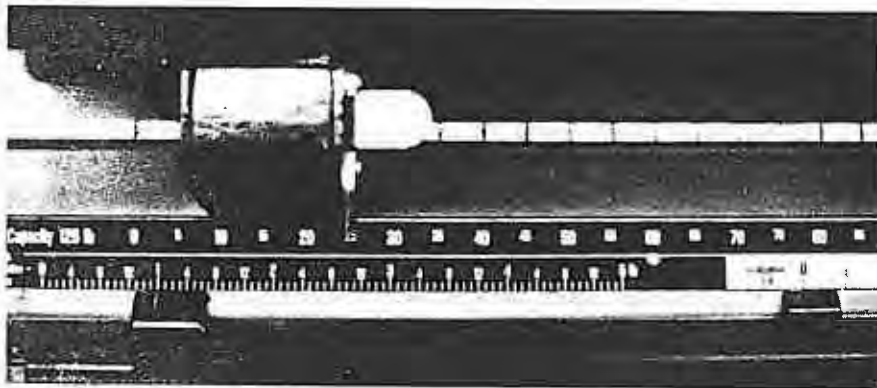

Figure 7. Example stop position. Scale weight = 26 lbs
- 6) When the beam balances, stop the stopwatch. Record the weight and time (Figure 7).